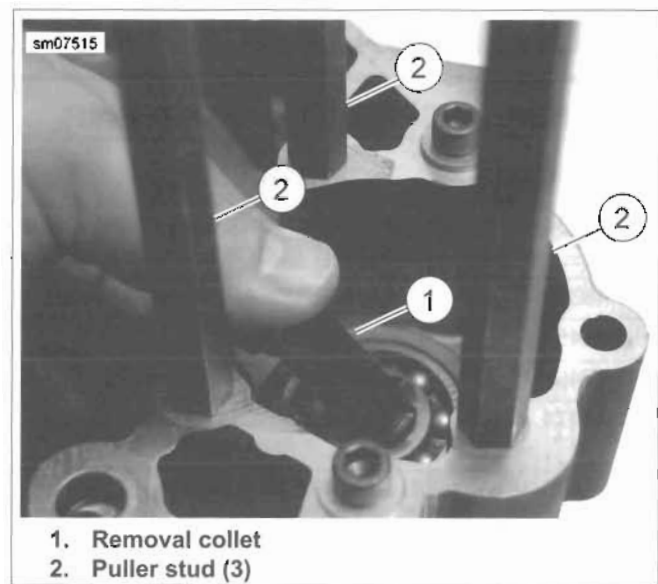

Figure 3-151. Bearing Removal Collet
- See Figure 3-151. Install puller studs (2) and REMOVAL COLLET (Part No. HD-48457-6) (1).